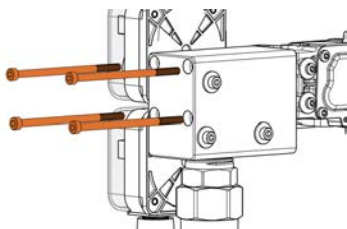

Figure 60 Screw Removal from Inlet Side of Gas Valve
3. Remove the four (4) screws from the inlet side of the gas valve using a 4 mm Allen key, and put aside (see Figure 60).